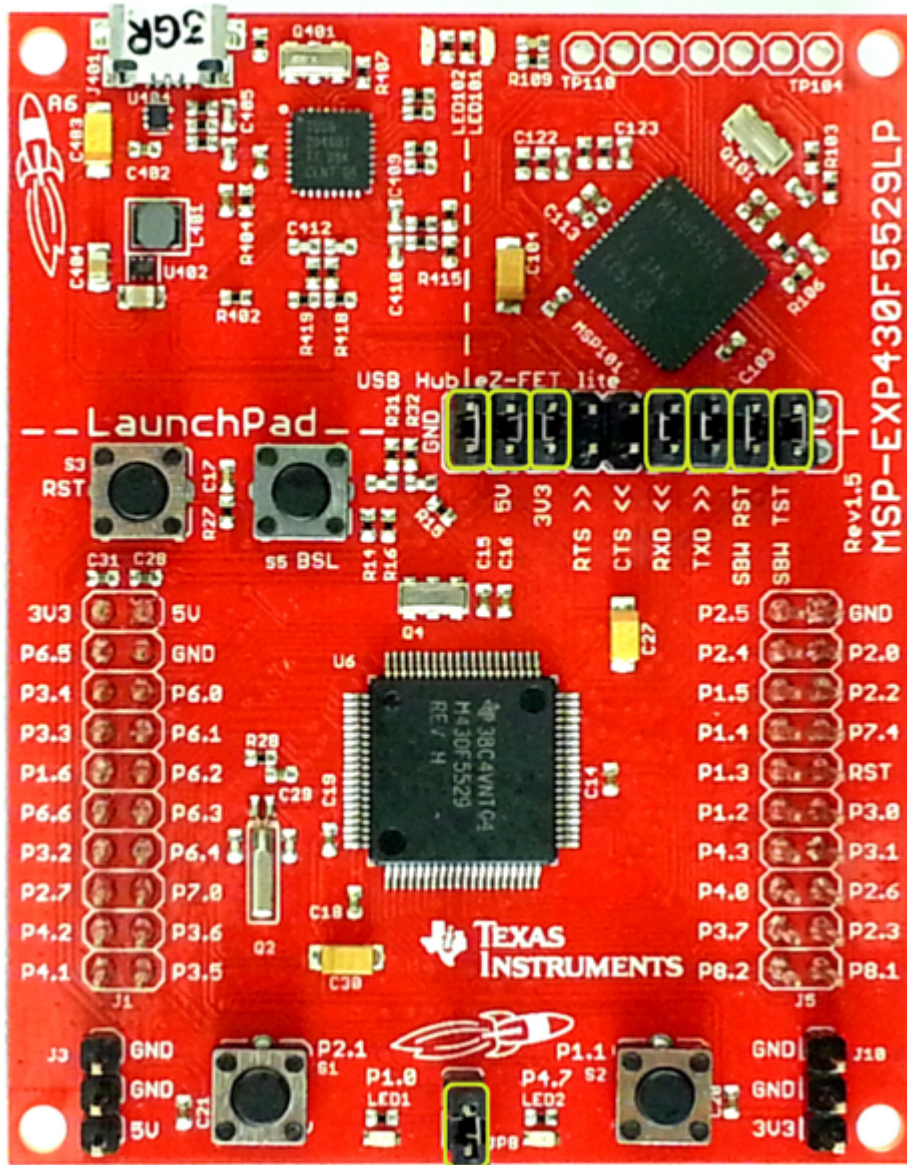

Figure 13. Jumpers on the MSP430F5529 Launchpad
- The jumpers on the MSP430F5529 Launchpad should be connected as shown in Figure 13.